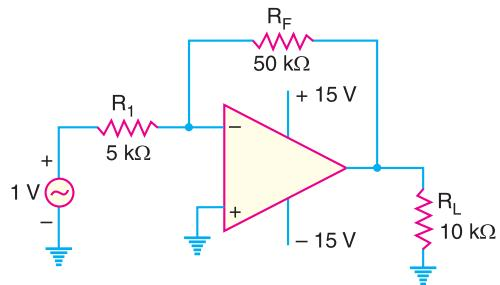

Fig. 25.101
7. For the circuit shown in Fig. 25.101, find (i) closed-loop voltage gain (ii) the instantaneous voltage across  $R_F$  when the signal voltage is +1V (iii) the instantaneous voltage on the –terminal when the signal voltage is +1V.